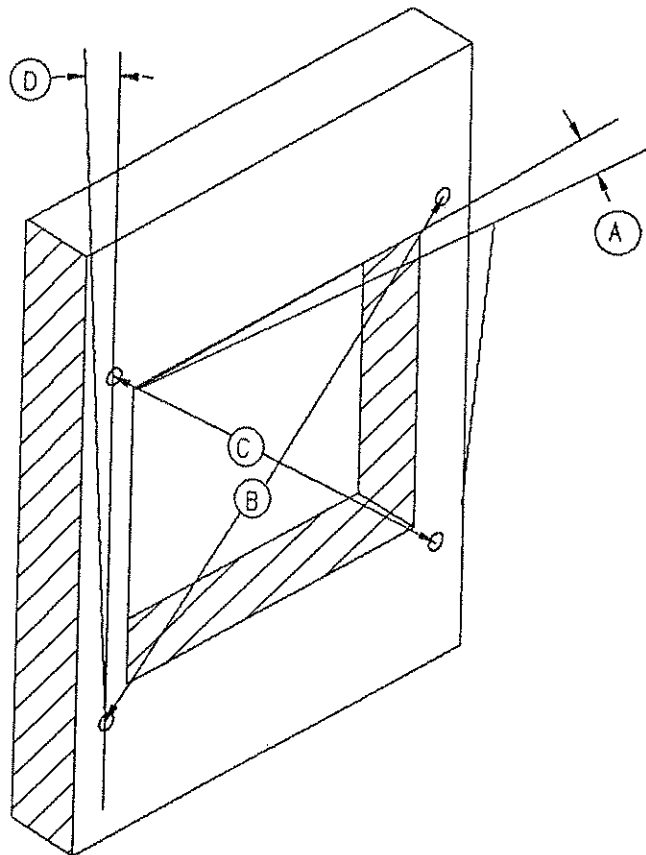

FIGURE 1
- 2) The wall should be even and smooth (see Fig. 1). All imperfections should be removed by grinding or filled with grout to yield a longer gate service life.